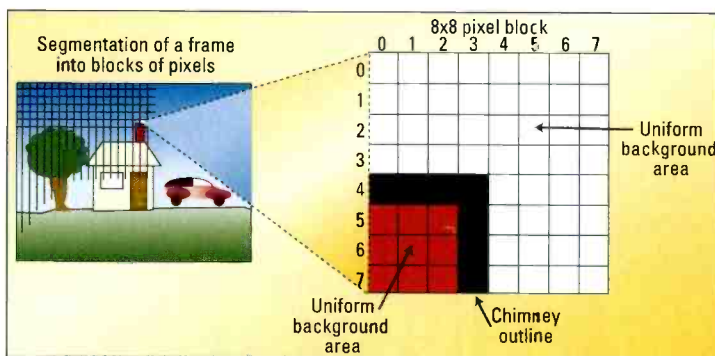

Figure 1. Formation of an 8x8 block
• **Discrete cosine transform (DCT):** DCT is a lossless, reversible mathematical process that converts spatial amplitude data into spatial frequency data. As shown in Figure 1, the image is divided into blocks of eight horizontal pixels by eight vertical pixels (8x8 block) of luminance (Y) and corresponding color-difference (C_B and C_R) samples. A block of 8x8 pixels is transformed into a block of 8x8 coefficients describing the amplitude at a particular frequency. The upper left corner represents the DC component.